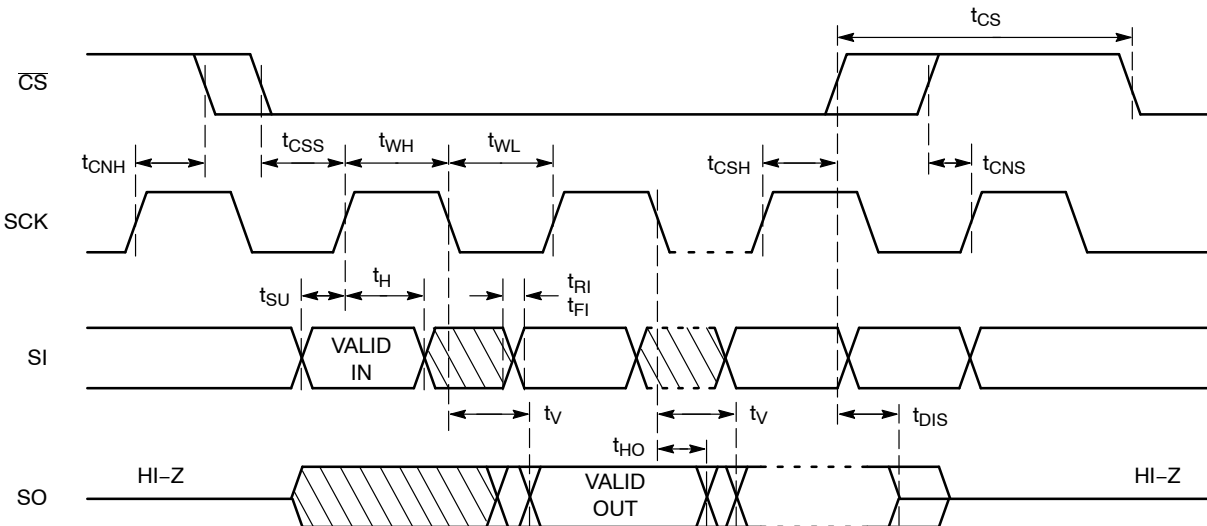

Figure 2. Synchronous Data Timing
9. **All Chip Select (CS) timing parameters are defined relative to the positive clock edge (Figure 2). t_{CSH} timing specification is valid for die revision D and higher. The die revision D is identified by letter “D” or a dedicated marking code on top of the package. For previous product revision (Rev.C) the t_{CSH} is defined relative to the negative clock edge.**
After a high to low transition on the $\overline{\text{CS}}$ input pin, the CAT25128 will accept any one of the six instruction op-codes listed in Table 10 and will ignore all other possible 8-bit combinations. The communication protocol follows the timing from Figure 2.